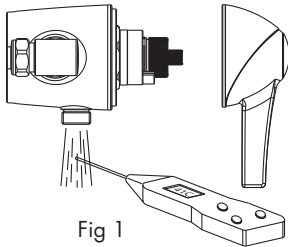

Fig 1
- Remove the indice (1) from the front of the shower valve.
- Remove the retaining screw (2) and handle (3).
- The temperature stop rings (4) are used to control the temperature. Ring A controls the hot and ring B controls the cold water.
- Remove both rings (4) from the cartridge and set the mixed water to the required temperature, maximum 41°C.
- Temporarily refit the handle (3) and using a digital thermometer it is possible to increase or reduce the mixed water outlet temperature until 41°C is re-established, by slowly rotating the handle.
- The temperature can be measured from mixed water outlet on the exposed valve (Fig 1) and from the wall elbow (Fig 2) or shower head outlet with the shower head removed for fully concealed installations.
- When the required temperature is achieved replace the two stop rings (4) on the splined spindle. The rings are used to set the temperature limits of the shower when in use.
- Re-assemble the handle (3), secure with the retaining screw (2) and re-fit the indice (1).